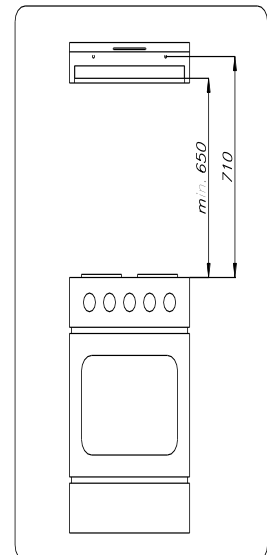

Fig. 2
- a) trace a vertical line on the wall to indicate the center of the cooker plate, dismantle the grease filter, hold the hood body „A” to the wall with its indicated center point on the vertical line, with the distance between the holes and the cooker plate at least 710 mm (Fig.2).